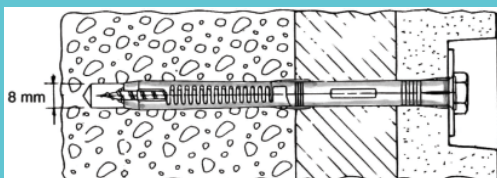

Figure 1
2. Drill hole accurately with 8mm dia. Masonry drill to required depth of fixing and screw allowing for thickness of unit and finishes. (See Fig.1)